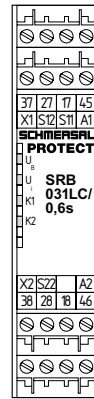

Fig. 1
5.2 Terminal description (see Fig. 1)